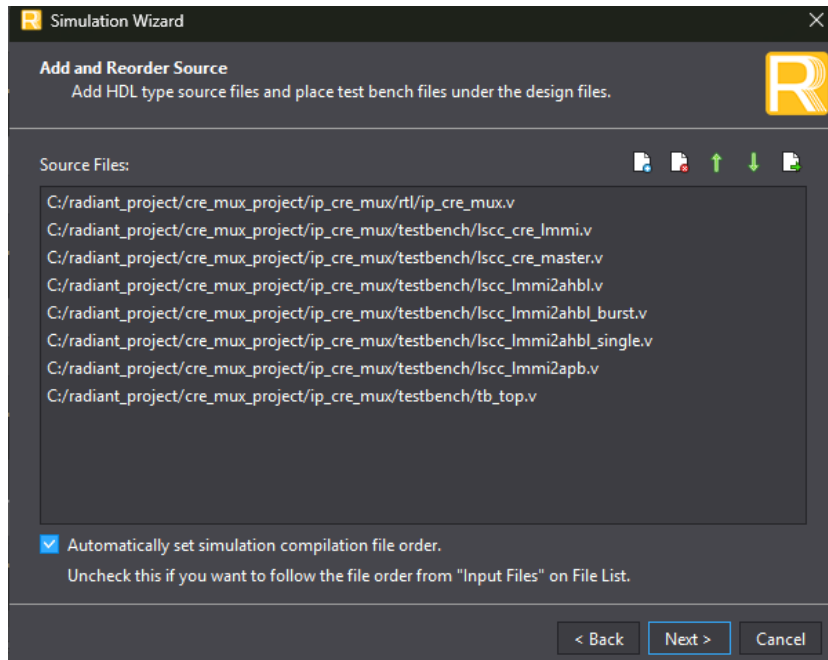

Figure 5.6. Add and Reorder Source
2. Click **Next** to open the **Add and Reorder Source** window as shown in Figure 5.6.